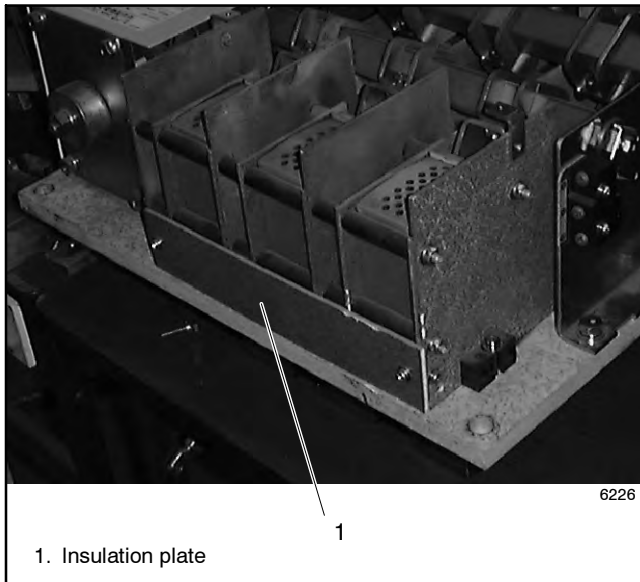

Figure 7-38 600 Amp Contactor
1. Remove the insulation plate. See Figure 7-38.